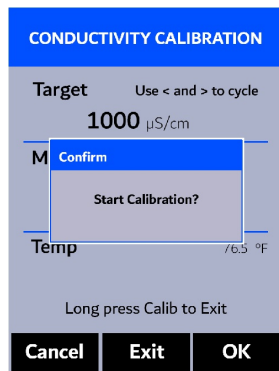

Figure 23.
7. Press **Calib (OK)** to confirm the specific conductivity calibration desired.
8. The display updates as shown in Figure 23 and the user can choose one of three options: